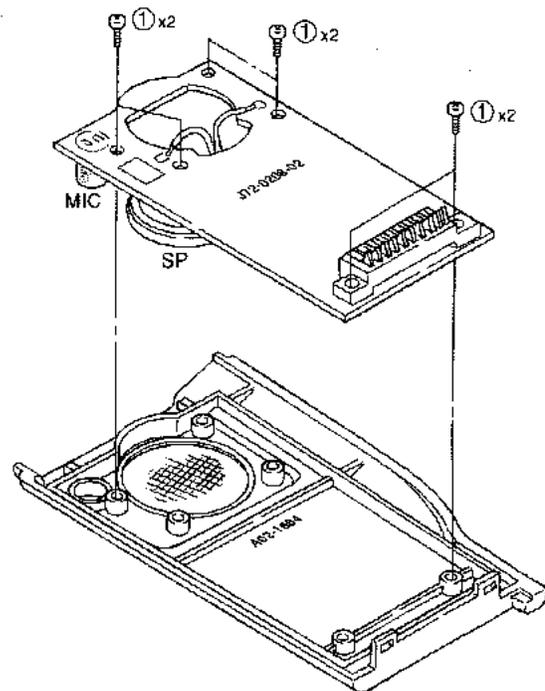

Fig. 1
2. Disassembling the Front Panel (Fig. 1)